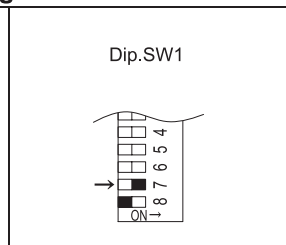

Fig. 3
9. Set Infinity to 'Forced Low' combustion by setting No. 7 dip switch of the (SW1) set of dip switches to 'ON'. (Fig. 3).